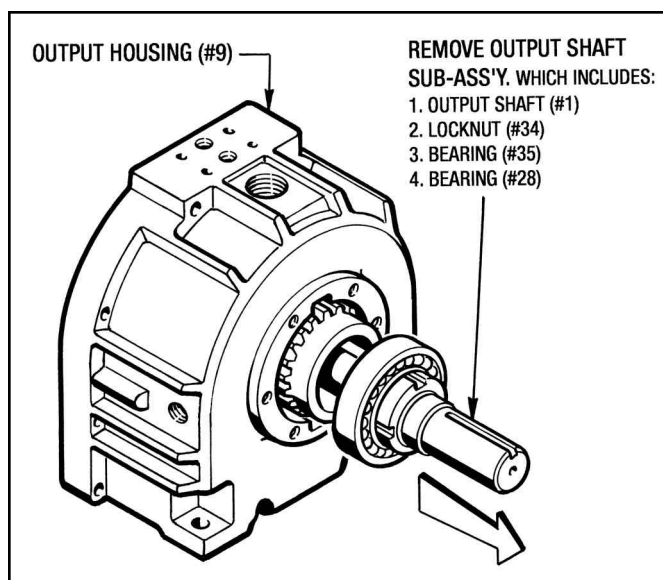

Figure 7.4 - Removing Output Shaft
2. Remove the Bearing Retainer (#7) by taking out (6) Screws (#63). Pull the Bearing Retainer off and over the Output Shaft, being careful not to damage the lip of Oil Seal (#31).
5. If necessary, remove the Brake Pressure Plate (#97) by taking out (4) Screws (#64).
6. With a mallet, tap the Output Shaft out of the Output Housing as shown in Figure 7.4.